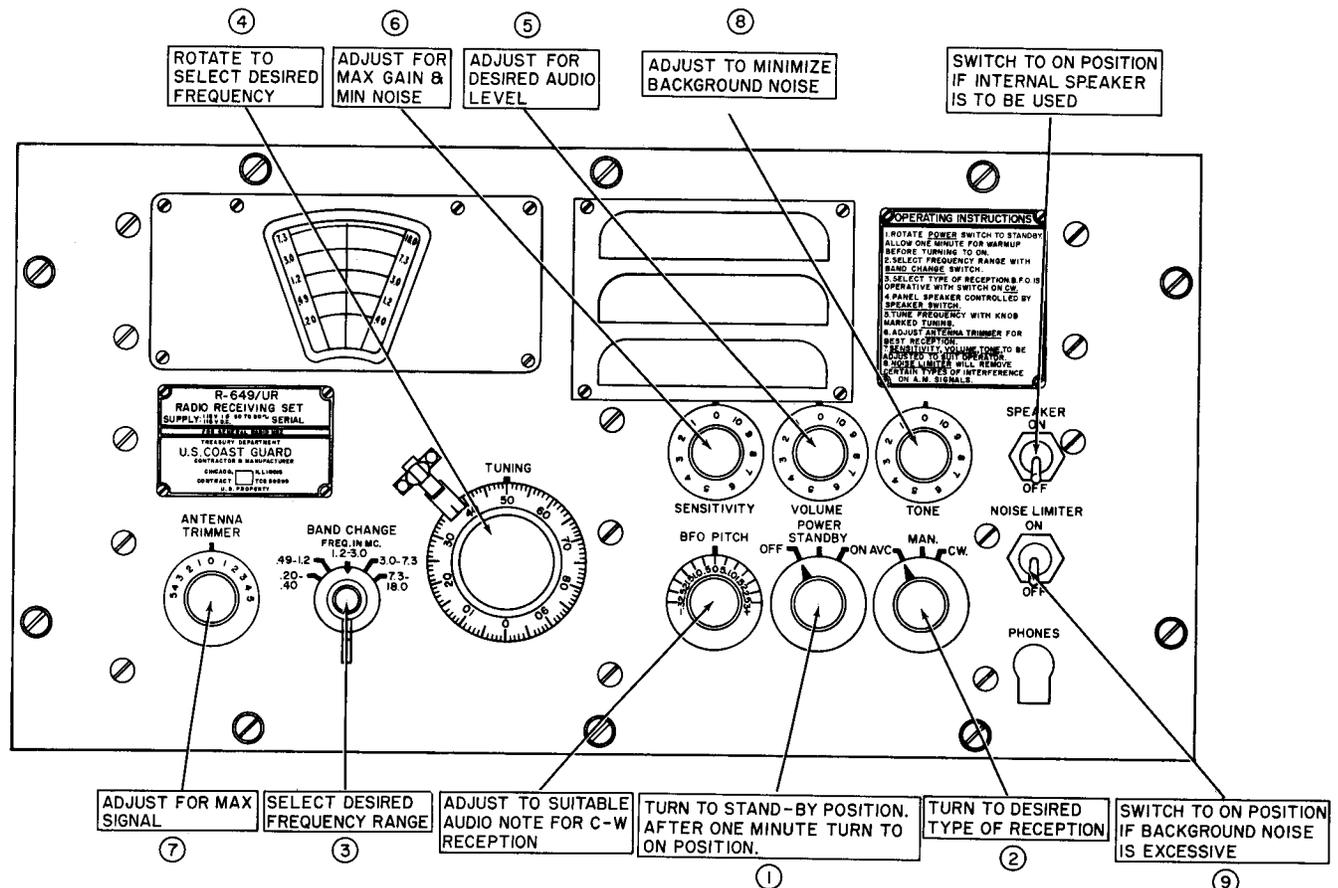

Figure 4-2. Operating Controls
a. PRELIMINARY ADJUSTMENTS. —To place the receiver (figure 4-2) in operation for any type of reception, adjust the front panel controls as follows:
(1) POWER SWITCH. —Set to STANDBY and allow the tube filaments to warm up for at least one minute. The tuning dial lights will light.
(2) BAND CHANGE SWITCH. —Set to the desired frequency band.
(3) TUNING CONTROL. —Adjust the TUNING control until the desired frequency is indicated on the tuning dial.
(4) SPEAKER SWITCH. —Turn to ON if the self-contained loudspeaker is being used. Turn to OFF when using an external speaker.